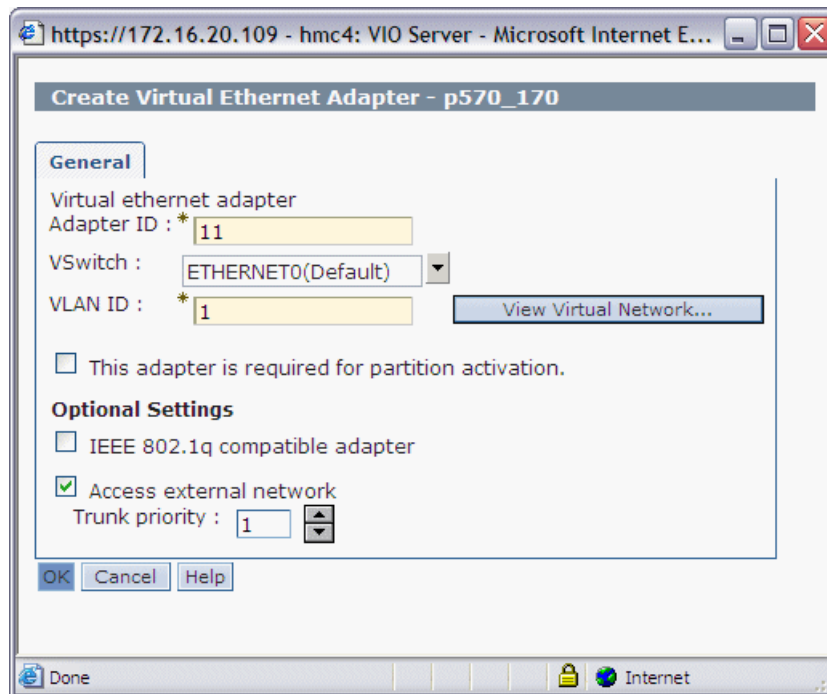

Figure 12-12 HMC Creating the virtual Ethernet adapter
10. A Virtual Ethernet adapter is a logical adapter that emulates the function of a physical I/O adapter in a logical partition. Virtual Ethernet adapters enable communication to other logical partitions within the managed system without using physical hardware and cabling. A Virtual I/O Server is only required for communication to an external network. Input the Adapter ID (in this case 11) and a VLAN ID (in this case 1) as shown in Figure 12-12. IEEE 802.1q is not needed here because VLAN tagging is not used.